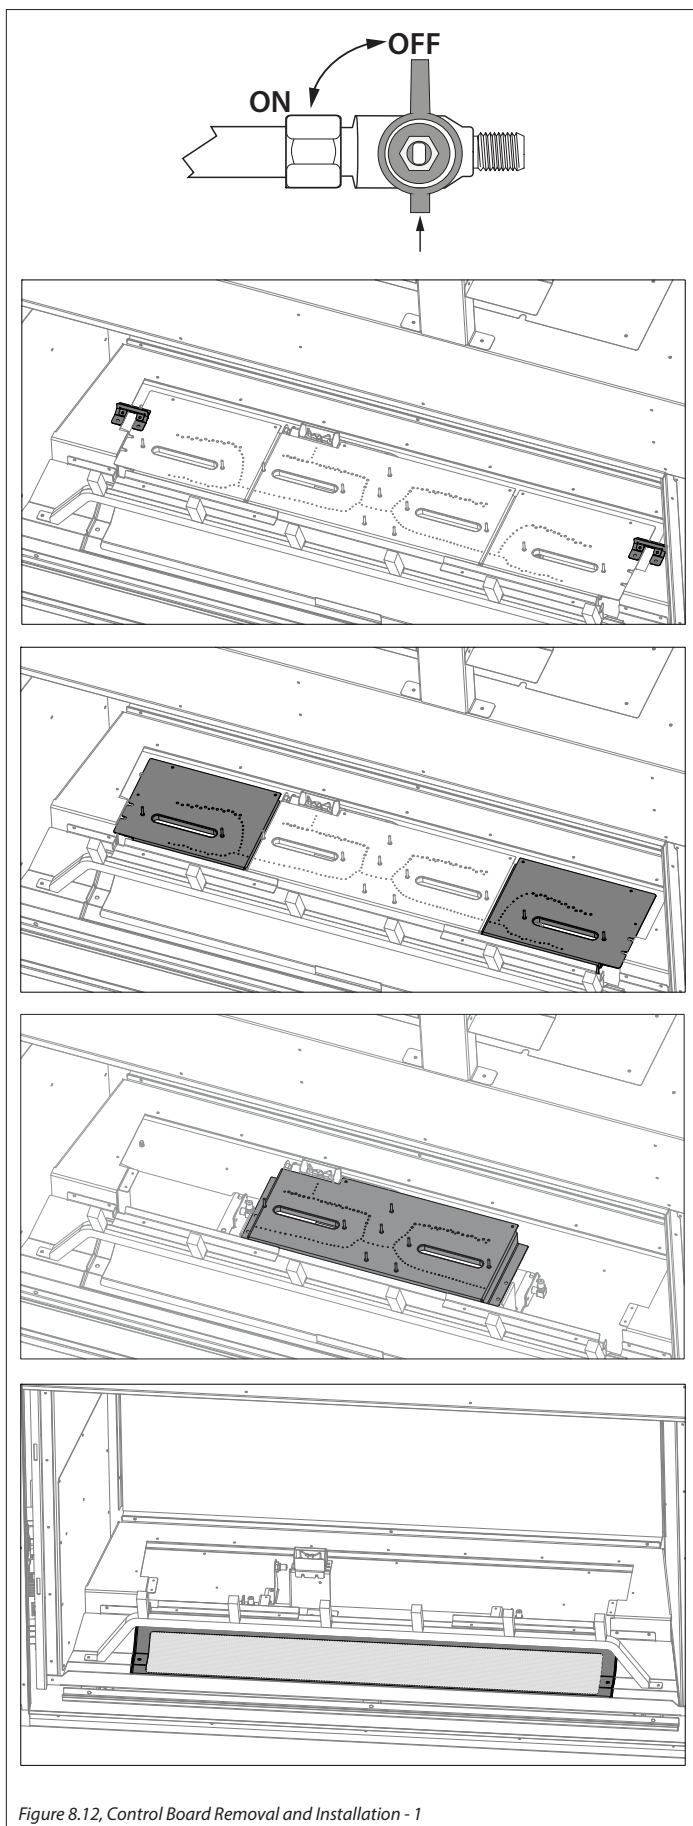
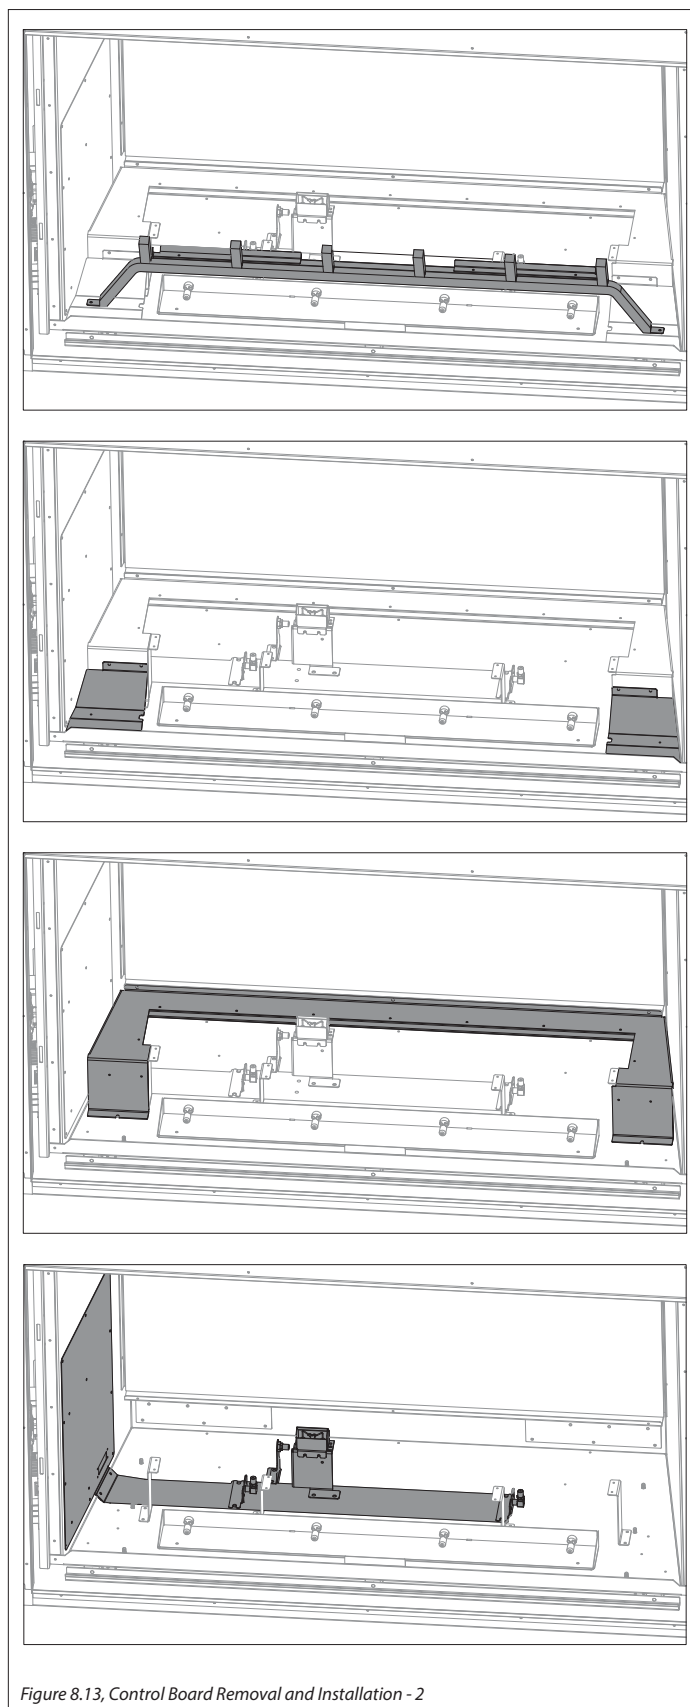

Figure 8.12, Control Board Removal and Installation - 1
Figure 8.13, Control Board Removal and Installation - 2
*Use Figure 8.12 and Figure 8.13 for guidelines to reinstall control board.*
5. Reinstall the left and right log support brackets. Secure with (4) screws previously removed.
6. Reinstall center burner. Position the burner tube venturi over the center burner orifice and secure with (4) screws previously removed.
7. Reinstall side burners. Position the burner tube venturis over the corresponding left and right burner orifices and secure with (4) screws previously removed.
9. Reinstall log stop brackets with (4) screws previously removed.